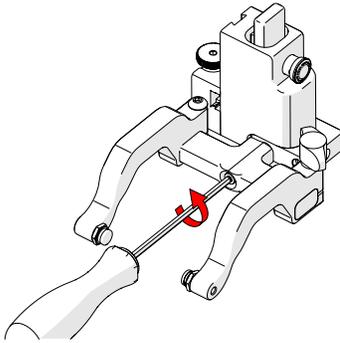

Fig. 52 - Remove yoke
1. Using the supplied 3 mm driver, unscrew the yoke (Fig. 52).
1. Remove the yoke using the supplied 3 mm hex driver (Fig. 52).